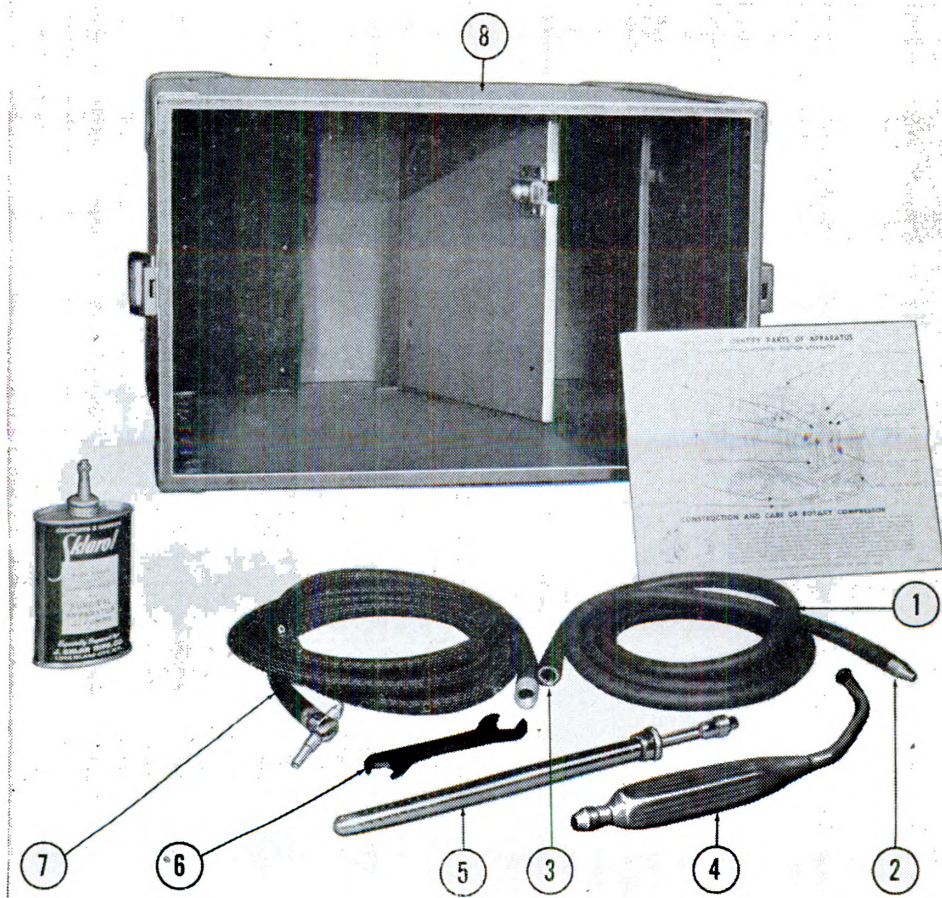

Figure 2. Suction Apparatus, Sklar, carrying case cover with all accessories.
c. To unpack, open case and remove the suction apparatus. Then from the compartment inside the case, remove the suction rubber tubing, silk pressure tubing, and accessories necessary for operation (fig. 2).
a. Attach the silk pressure tubing (fig. 2) to the positive outlet of the pump.